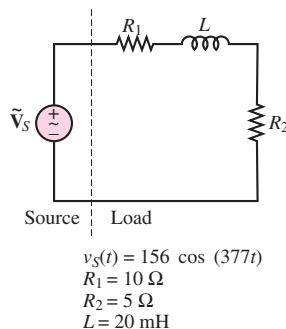

Figure 7.27
1. For the circuit shown in Figure 7.27, show the connections of the wattmeter, and find the power dissipated by the load.